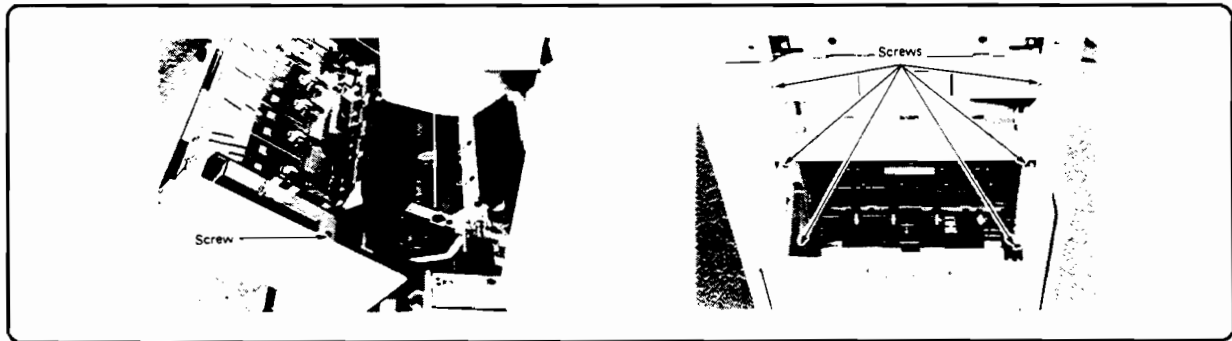

Figure 6-115. Switchback Inner Cover Removal
2. Remove one screw on the right (holding the outer cover), and five screws on the left (holding the inner cover) (Figure 6-115).